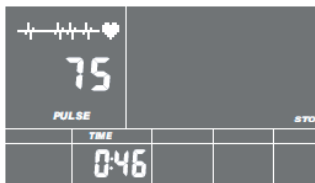

fig. 17
2. Press **RECOVERY** to enter the pulse recovery test and the computer program will enter the stop status. (See fig. 17)